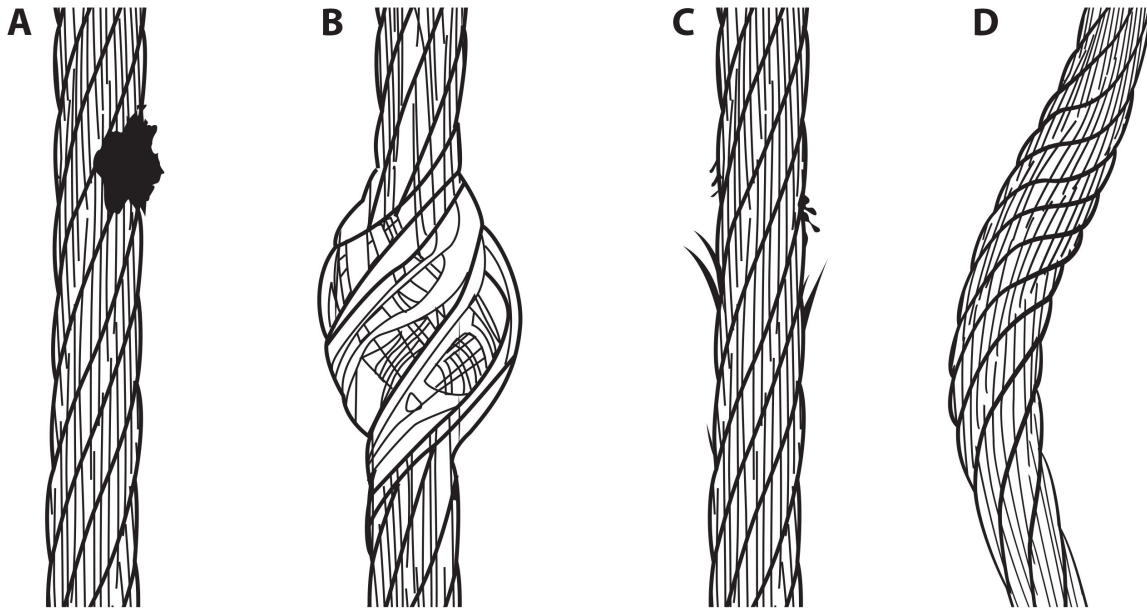

Figure 3A: Inspection of Constituent Cable
4.3 Use of the Winch: Inspect the winch and cable before each use in accordance with the procedures in Section 7 of this manual. Ensure the cable is in proper working order, with no damage or deformities. See Figure 3A. Ensure the support structure is configured for maximum efficiency, and correctly oriented. The device should be at a comfortable height for use. Adjust device bracket if necessary. Reeve the cable onto the pulley. Ensure the material is secured to prevent objects and parts or pieces from falling during the hoisting and lowering process. Attach the winch leg end connector to the material. Rotate the crank handle counterclockwise to lower the material into a confined space and clockwise to raise the material from a confined space.